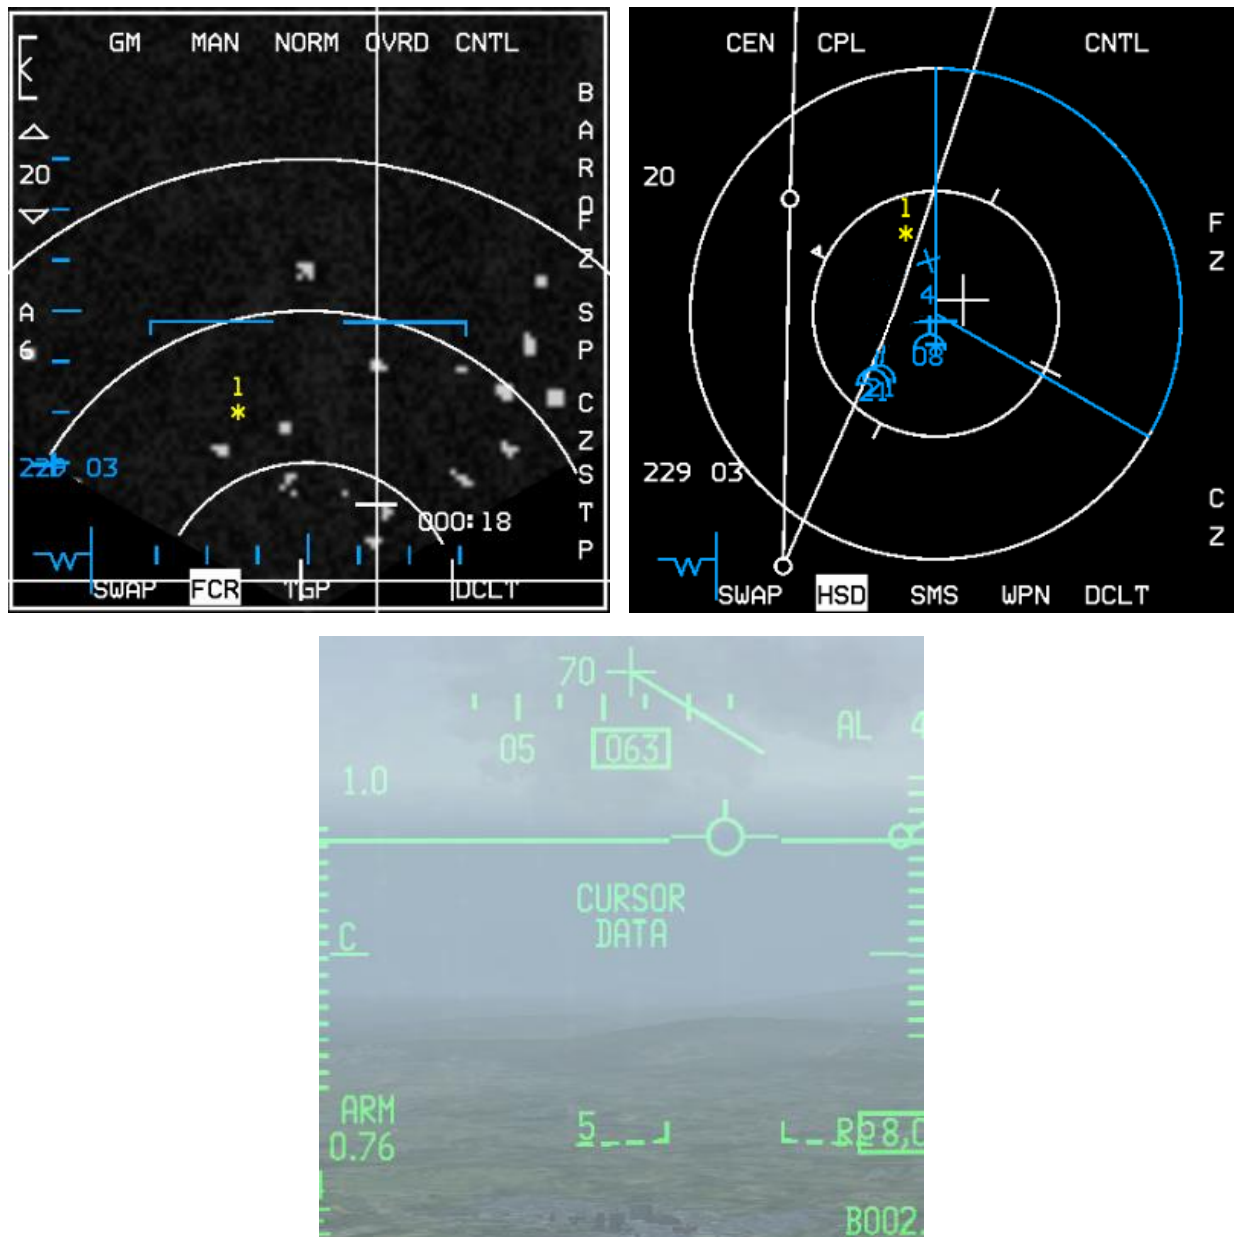

Figure 52 Assignee (#3's) FCR, HSD and HUD. Assigner (#1) sent cursor data NNE of ownship Markpoint
- Data Link FCR A-G Cursor Position (see Figure 52). The data link A-G cursor position is displayed on the HSD as an asterisk with the sending flight member's number above it.
Transmitting ownship A-G cursor coordinates is accomplished hands-on by making the FCR the SOI, slewing the radar cursor with the CURSOR/ENABLE control to the point-of-interest and then depressing Comms switch right on the throttle (Page Down). An audio tone is audible in the headset and the mnemonic XMT is highlighted for two seconds adjacent to OSB 6 on the HSD. The pilot will not see his own A-G cursor position data link symbol, which is a yellow asterisk (*) symbol (Figure 52).